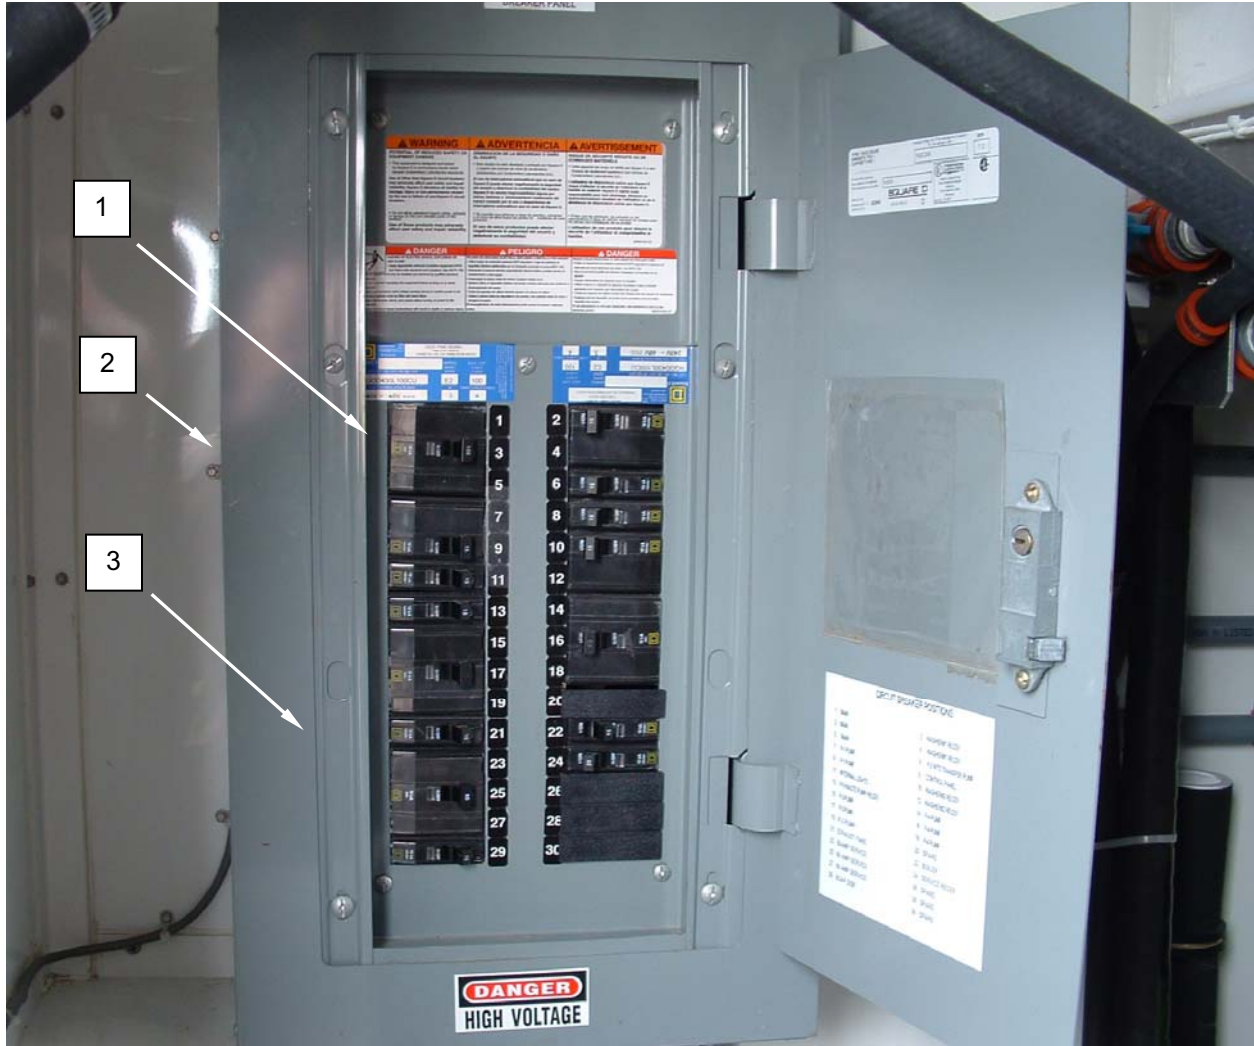
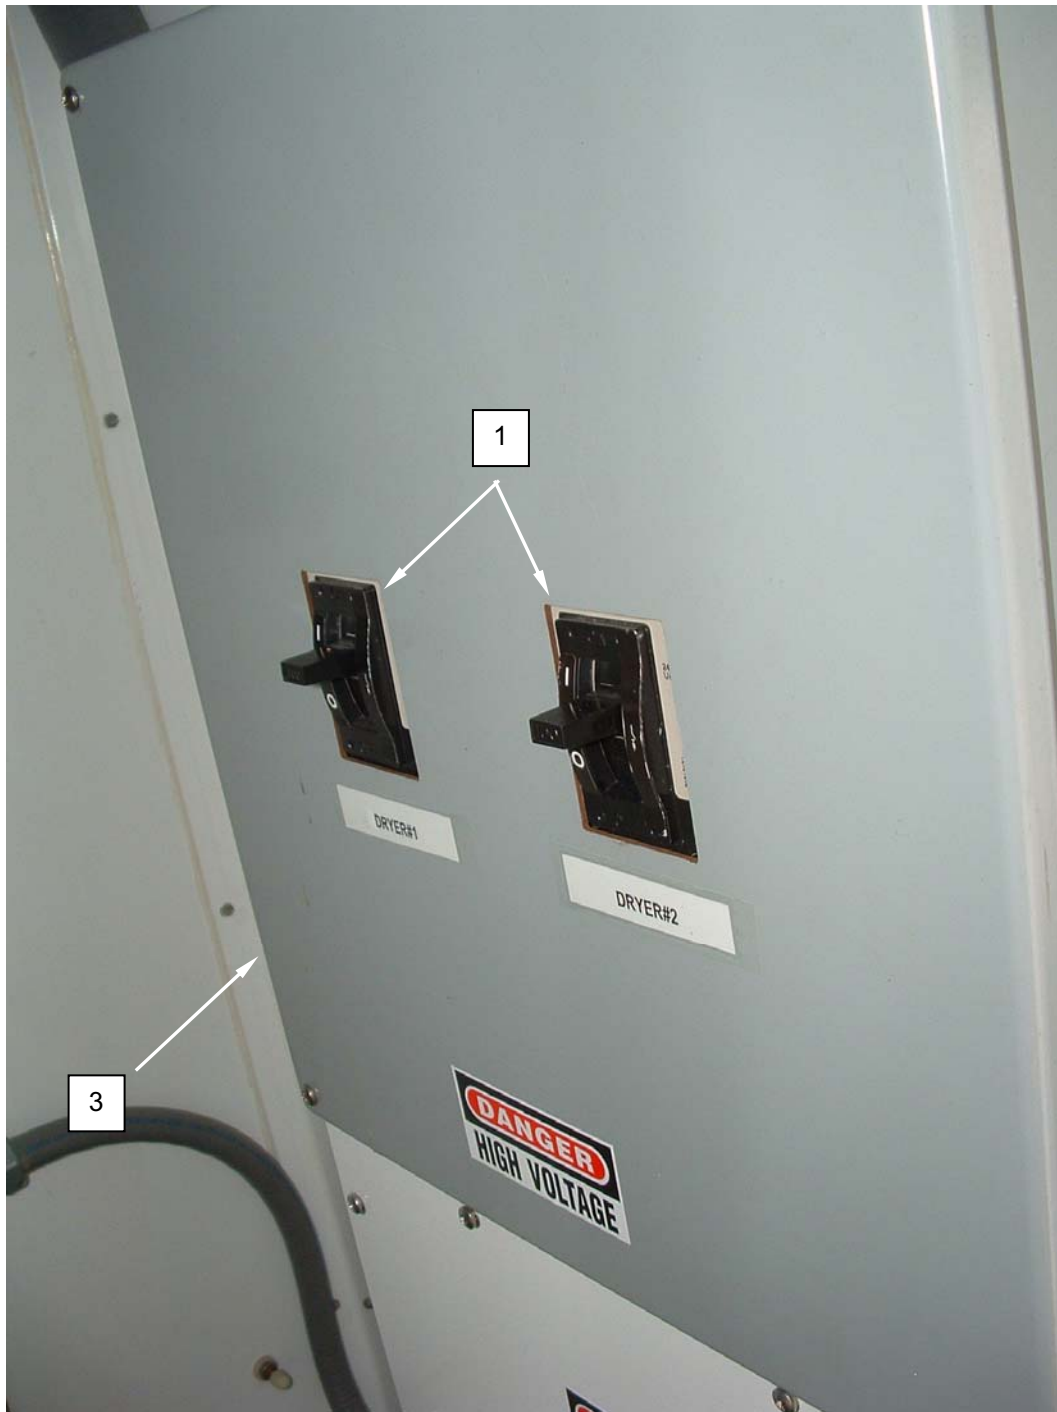

Figure 5. Replace Circuit Breakers – Main Panel.
Figure 6. Replace Circuit Breakers – Dryer Panel.
Figures 5 and 7 illustrate the procedures on the main circuit breaker panel. Figures 6 and 8 illustrate the procedures on the dryer circuit breaker panel.
1. Switch all circuit breakers (**Figures 5, 6, 7, 8, Item 1**) to OFF.
3. Remove screws retaining the circuit breaker box cover (**Figures 5, 7, Item 2**) (Main Circuit Breaker Panel only), and remove the circuit breaker box cover.
4. Remove the screws retaining the circuit breaker panel cover (**Figures 5, 6, 7, 8, Item 3**) and lift the circuit breaker panel cover from circuit breaker box.
5. Tag and disconnect wires from the circuit breaker (**Figures 5, 6, 7, 8, Item 1**) to be replaced.
6. Remove circuit breaker (**Figures 5, 6, 7, 8, Item 1**).
7. Install circuit breaker (**Figures 5, 6, 7, 8, Item 1**).
8. Connect wires to circuit breaker (**Figures 5, 6, 7, 8, Item 1**) as tagged.
9. Install circuit breaker panel cover (**Figures 5, 6, 7, 8, Item 3**) and retain with screws.
10. Install circuit breaker box cover (**Figures 5, 7, Item 2**) (main circuit breaker panel only) and retain with screws.